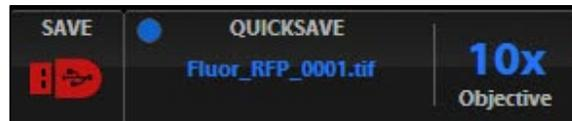

Figure 18 QuickSave Option
1. Click the **Settings** button to open the Settings dialog box, and then select the **QuickSave** tab (Figure 18).